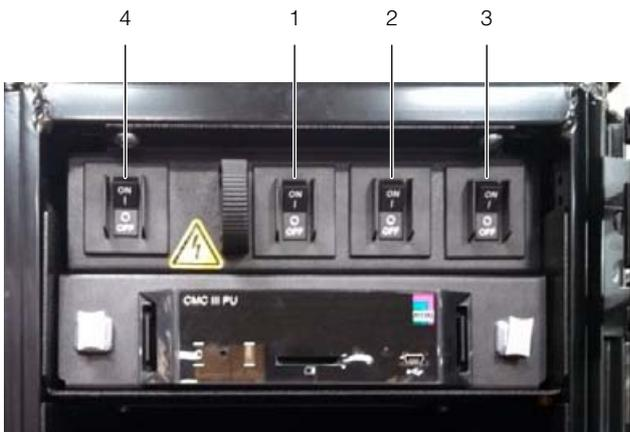

Fig. 28: Fuse box with master switch
On the LCP Inline flush, thermally activated switch 3 (fig. 28, item 3) is not assigned and therefore has no function.